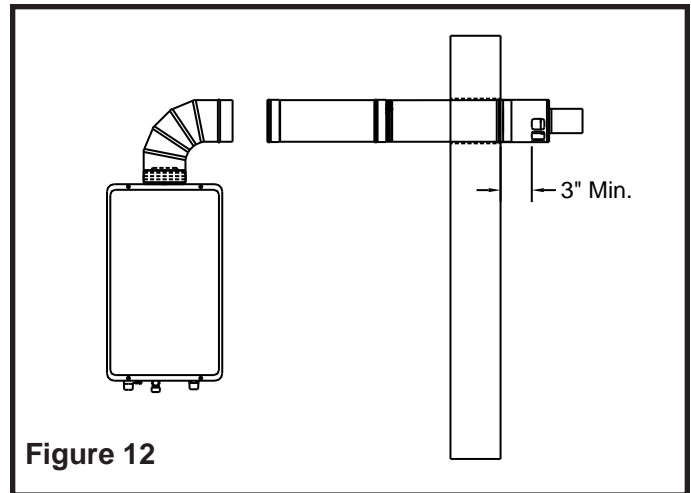

Figure 12
- 13) The opening of the lower side of the termination should be a minimum of 3 inch distance away from the wall of the building structure (See **Figure 12**). If applicable, the Adjustable Vent Pipe is capable of being stretched or compressed to meet the exact vent length required for proper installation. Simply pull or compress the Adjustable Vent Pipe to the desired length to provide the minimum distance the vent can terminate from the wall.